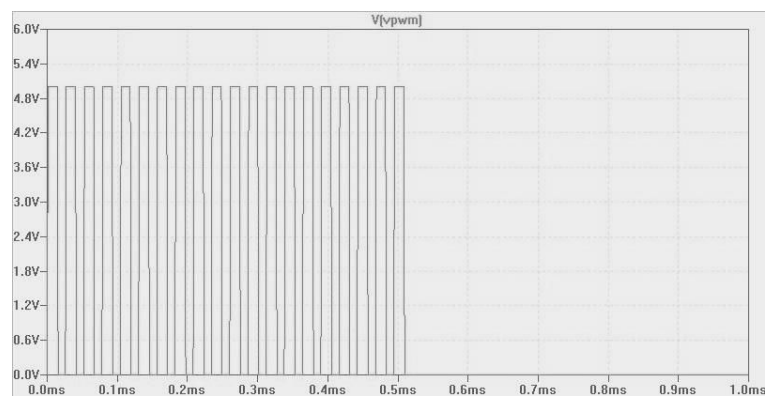
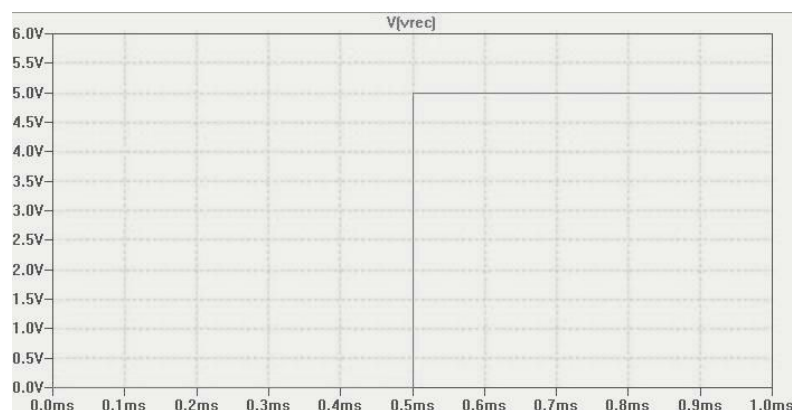

Figure 1. Example of IR emission
Figure 2. Example of IR reception
- Figure 1 shows a PWM signal, which would drive the IR emitter, at 38 kHz. This shows what it looks like to send a HIGH from 0 to .5ms, and a LOW from .5 ms to 1ms.
- Figure 2 shows how the waveform in Figure 1 would be received
Figure 2 shows the behavior of the receiver during the reception of a HIGH and a LOW
There are many commercial infrared communication protocols used by companies such as Sony SIRC, Phillips RC5/RC6, and NEC. All these protocols have some sort of preamble which is mapped on to a pattern of HIGHs and LOWs of various durations. They differ in how data bits map to a HIGH/LOW pattern. But it is important to note that a HIGH is NOT a constant high voltage but a square wave of frequency 36-40 kHz, as shown in Figure 1.